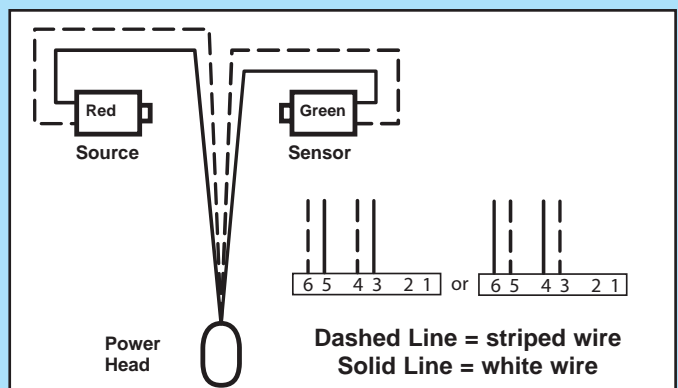

FIG. 4-5a Source and sensor wiring methods.
- Route wire from Safe-T-Beam® to power head using method shown in (Fig. 4-5a).